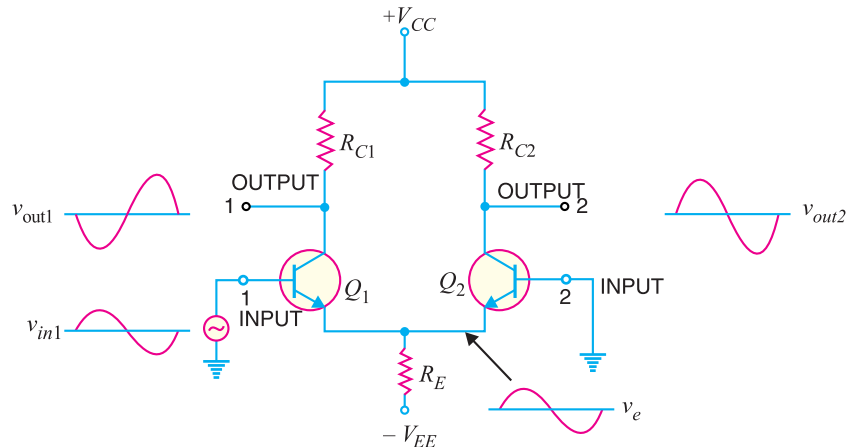

Fig. 25.5
(i) Suppose the signal is applied to input 1 (*i.e.*, base of transistor Q_1) and input 2 (*i.e.*, base of transistor Q_2) is grounded as shown in Fig. 25.5. The transistor Q_1 will act in two ways : as a common emitter amplifier and as a common collector amplifier. As a common emitter amplifier, the input signal to Q_1 (input 1) will appear at output 1 (*i.e.*, collector of Q_1) as amplified inverted signal as shown in Fig. 25.5. As a common collector amplifier, the signal appears on the emitter of Q_1 in phase with the input and only slightly smaller. Since the emitters of Q_1 and Q_2 are common, the
emitter signal becomes input to Q_2 . Therefore, Q_2 functions as a *common base amplifier. As a result, the signal on the emitter of Q_2 will be amplified and appears on output 2 (*i.e.*, collector of Q_2) in phase with the emitter signal and hence in phase with the input signal (signal at input 1). This is illustrated in Fig. 25.5.
- (a) When signal is applied to input 1 (*i.e.*, base of transistor Q_1 in Fig. 25.5), an inverted, amplified signal appears at output 1 and non-inverted, amplified signal appears at output 2. Reverse happens when signal is applied to input 2 and input 1 is grounded.